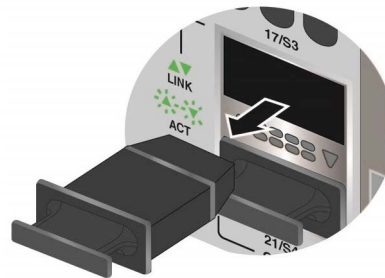

Figure 84. Removing the Dust Cover from a QSFP+ Transceiver Slot
1. Remove the dust cover from QSFP+ slot 17 or 21. Refer to Figure 84 on page 175.
1. Remove the dust cover from a QSFP+ slot in the switch. Figure 84 shows the removal of the dust cover from slot 17.